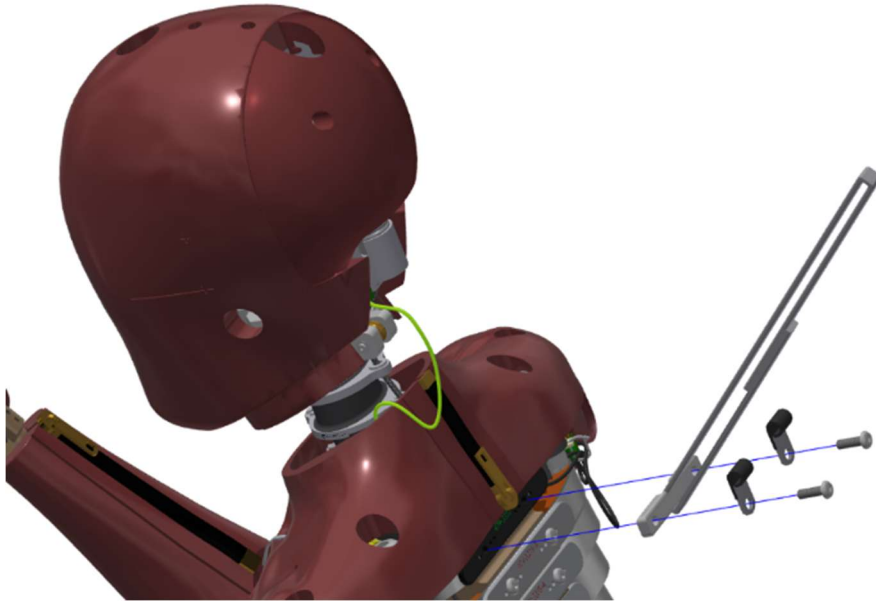

Figure 2-3. Install lifting strap bracket to upper thoracic spine box weldment
- 2.2.1.2 Install the two M5 X 0.8 X 10 BHCS through the lifting strap bracket into the Upper Thoracic Spine Box Weldment (472-3620) above the first rib (Figure 2-3).